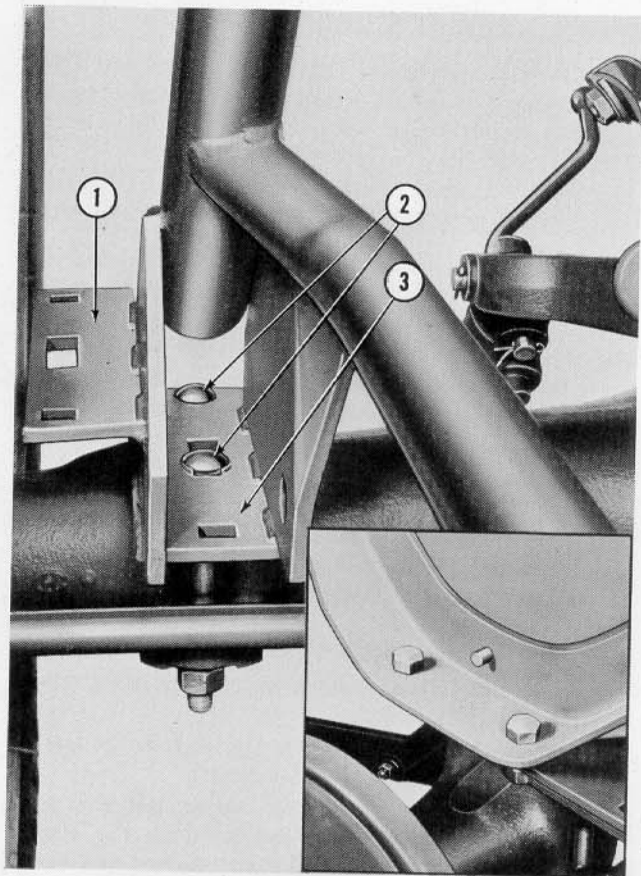

Figure 7
- d. Attach the rear end of the loader main frame (3), Figure 7, to the tractor left and right rear axle housing as shown. Use the original tractor fender bolts (2) and tighten securely.
21. Attach the tractor fenders to the brackets (1), Figure 7, with the nuts and bolts provided. See insert, Figure 7.